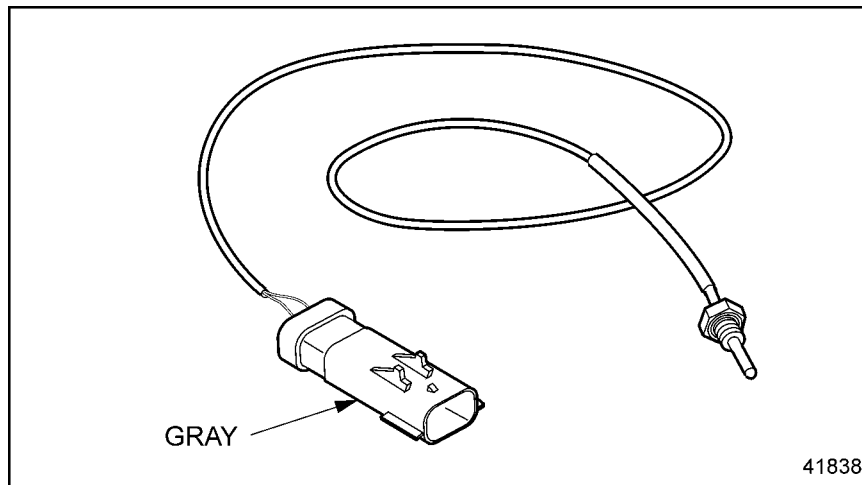

Figure 50-4 Turbo Compressor Temperature Out Sensor
- [b] If no damaged pins are found, replace the sensor (see Figure 50-4) Then, refer to section 50.3.2.1.
- [b] If the wire was not open replace the TCTO Sensor (see Figure 50-4). Then refer to section 50.3.2.1.